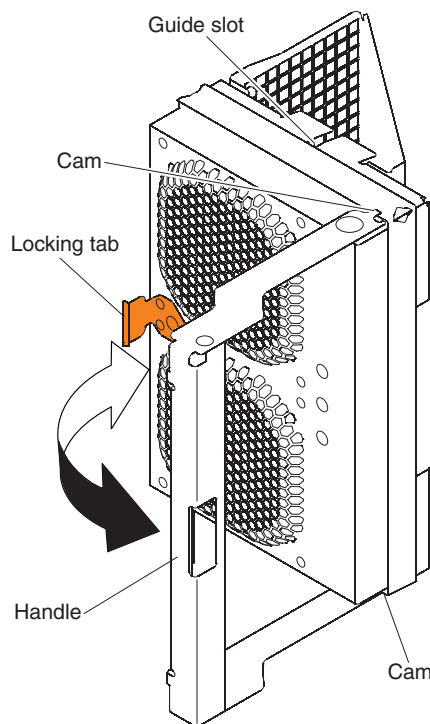

Figure 53. Removing a fan assembly
- a. At the rear of the storage expansion enclosure, remove the fan assembly (see Figure 53) by pressing on the locking tab holding the fan assembly handle in place; then, pull the fan assembly handle toward you.